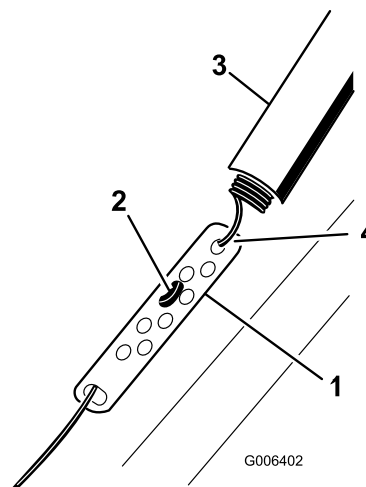

Figure 27
1. Slide up the spring cover and unhook the spring from the adjuster link (Figure 27).